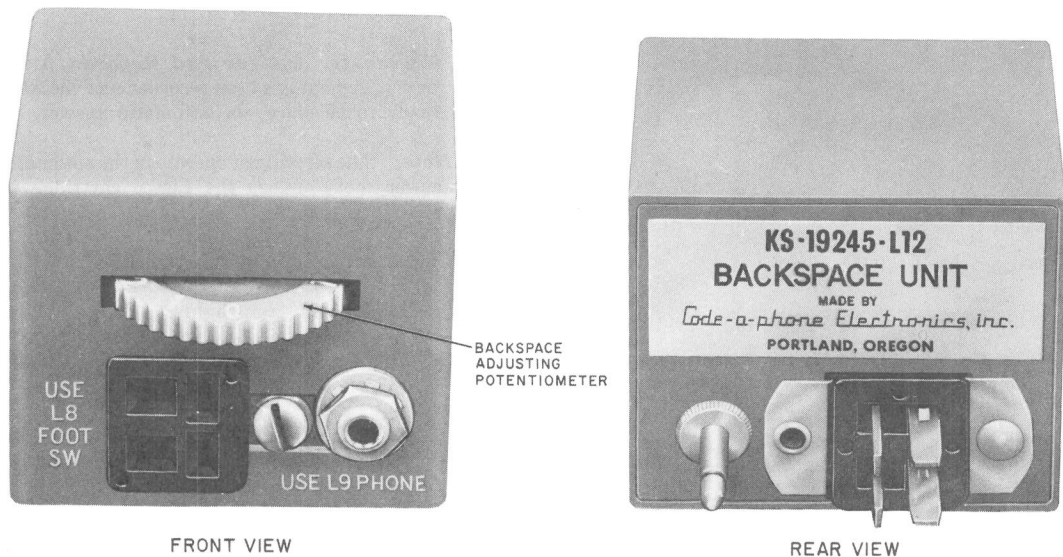

Fig. 18—KS-19245, List 12 Backspace Unit
(c) The KS-19245, List 12 Backspace Unit (Fig. 18), allows automatic backspacing of the message tape a few words each time the playback activated control on the foot switch pedal is released. The user can control the amount of backspace (up to approximately 12 words) by adjusting the backspace control. Automatic backspacing may be disabled by turning the backspace control to its zero position.
4.17 Backspace Unit KS-19245, List 12 (Fig. 18).